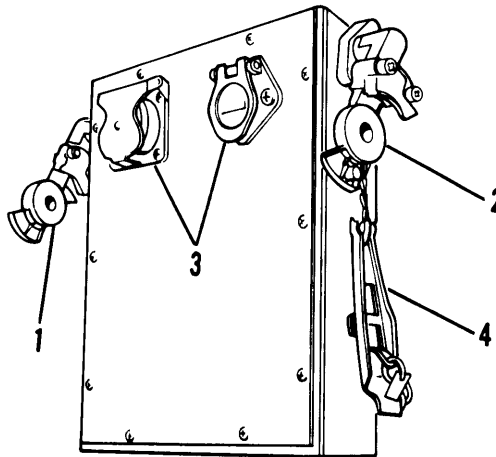

Figure 2-4. Nose Box
b. Service gladhand (1, fig. 2-4) and emergency gladhand (2) couplings provide the connection between the semitrailer brake system and the towing vehicle air supply system.
c. Electrical connectors (3) provide the connections between the semitrailer lights and the towing vehicle electrical system. Both connectors use spring loaded covers to keep foreign matter out when the cables are disconnected. The left (roadside) connector is for 12 volt and the right (curbside) is for 24 volt.
d. Two dummy couplings (4) are fitted to the SERVICE and EMERGENCY air hose couplings when brake air hose couplings are not connected to the towing vehicle. Dummy couplings (4) are used to prevent dirt and moisture from entering the brake system.